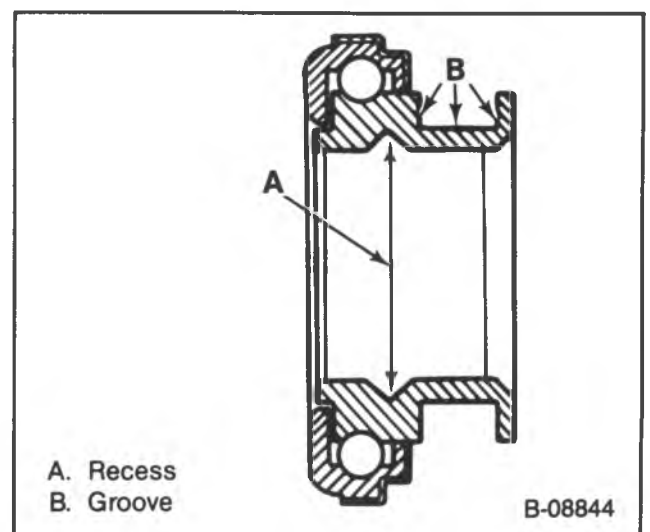

Figure 15 — Release Bearing
6. Ball stud (209).
- Coat the rounded end of the ball stud (209) with high temperature grease.
- Pack the ball stud seat from the lubrication fitting (A) on the flywheel housing (207) (R/V models only).
7. New retainer (211) if needed.
8. Release bearing (212), the clutch fork (200) and the boot (210).
- Pack the inside recess and the outside groove of the release bearing (212) with high temperature grease as shown (figure 15).
9. Flywheel housing (207) and screws (216).
10. Cover (215) and screws (216).